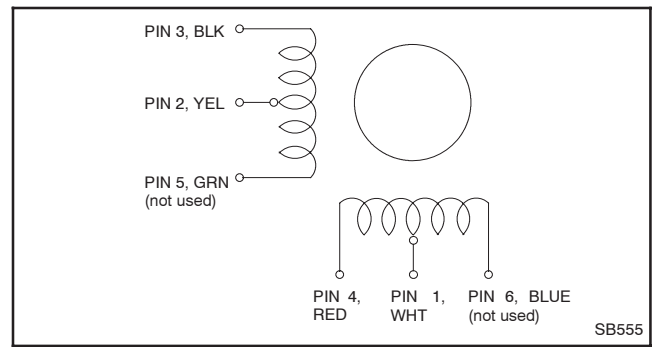

Figure 6-24 Actuator Coil Group
11. Check the stepper motor coil resistance across pins 2 and 3 and across pins 1 and 4. Only two stepper motor leads of each coil group are used (BLK-YEL and RED-WHT). See Figure 6-24. The resistance per half coil is 38.5 ohms. If one of the coils has a significantly higher resistance or is shorted, replace the stepper motor.